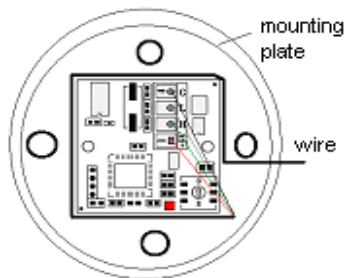

Figure 28: Wire around Sensor Board
5. Route cable around the sensor board (**Figure 28**) and then reassemble the sensor enclosure.